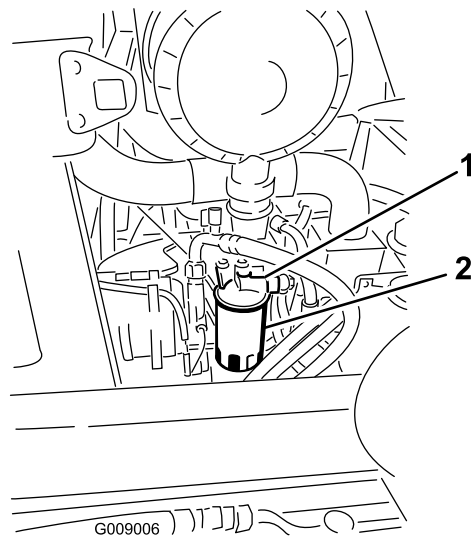

Figure 65
1. Clean the area around the fuel filter head (Figure 65).
2. Remove the filter and clean the filter head mounting surface (Figure 65).